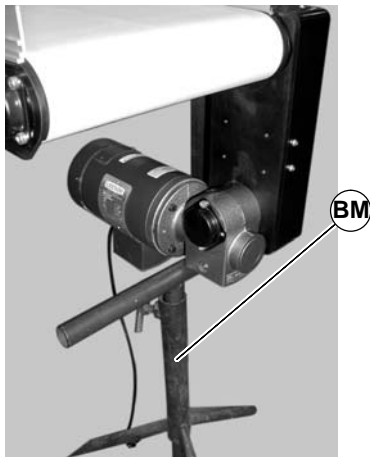

Figure 49
- 1) Use a temporary support (BM of Figure 49) to support Gearmotor.